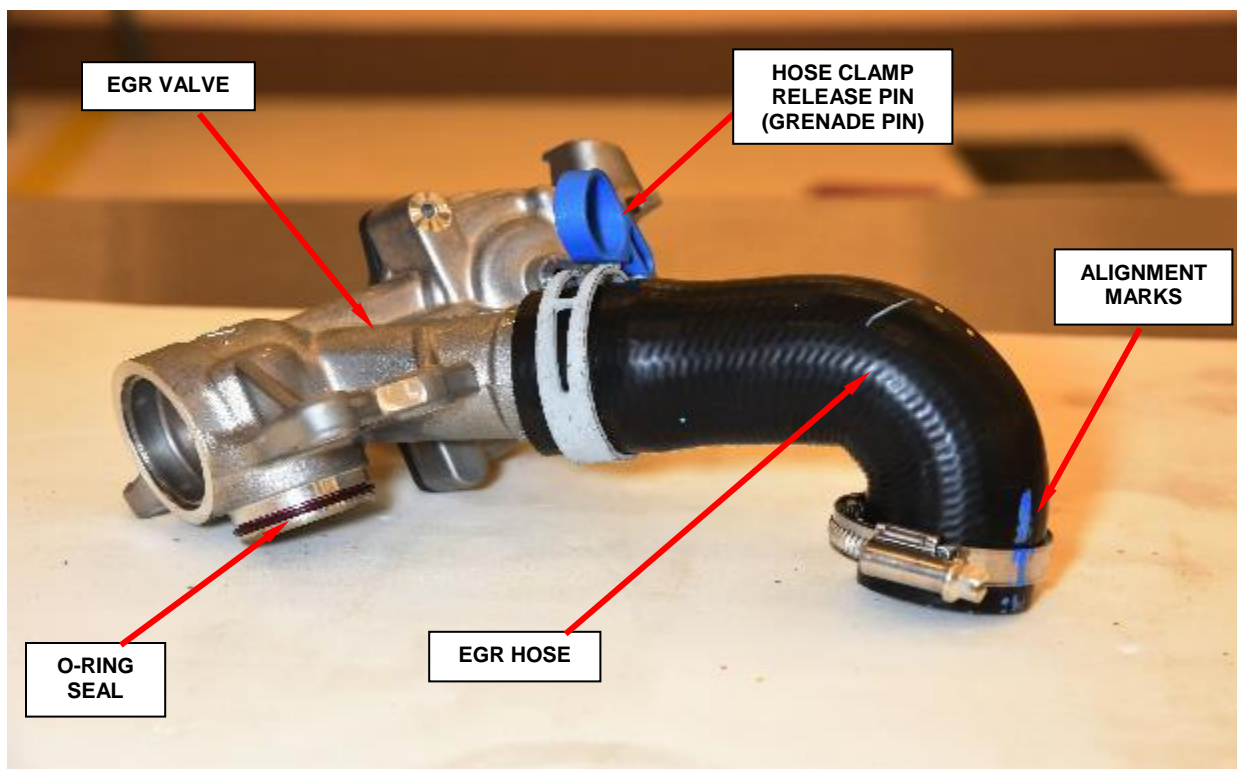

Figure 10 – EGR Hose and EGR Valve
CAUTION: When handling the EGR valve be careful to not damage the O-ring seal (Figure 10).
16. Remove EGR hose from the EGR valve and **DISCARD** the hose (Figure 10).
17. Lubricate the **NEW** EGR hose with P-80 (rose water) or equivalent and install the EGR hose on EGR valve (Figure 10).
NOTE: Do not remove the hose clamp release pin (grenade pin) from the constant tension clamp at the point (Figure 10).